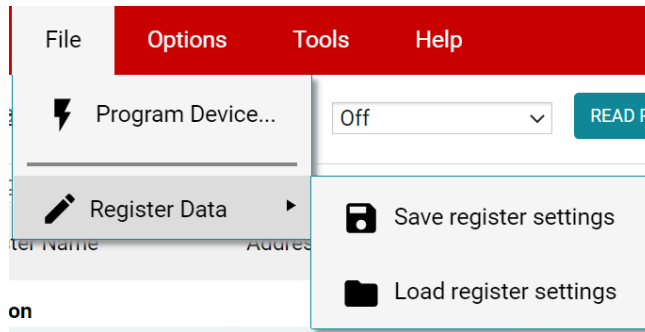

Figure 3-9. Save and Load Register Settings
- For convenience, register settings can be saved and loaded back later to any device with the same register map. To do this, go to *File > Register Data*, as shown in Figure 3-9.